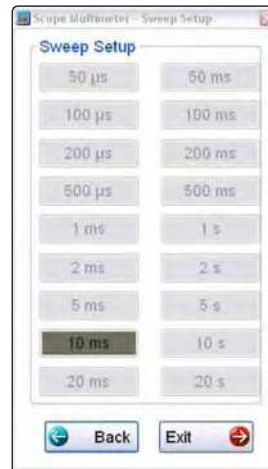

Figure 8-18 Sample Sweep Setup dialog box
2. Select the **Sweep** button to open the sweep dialog box (Figure 8-18)